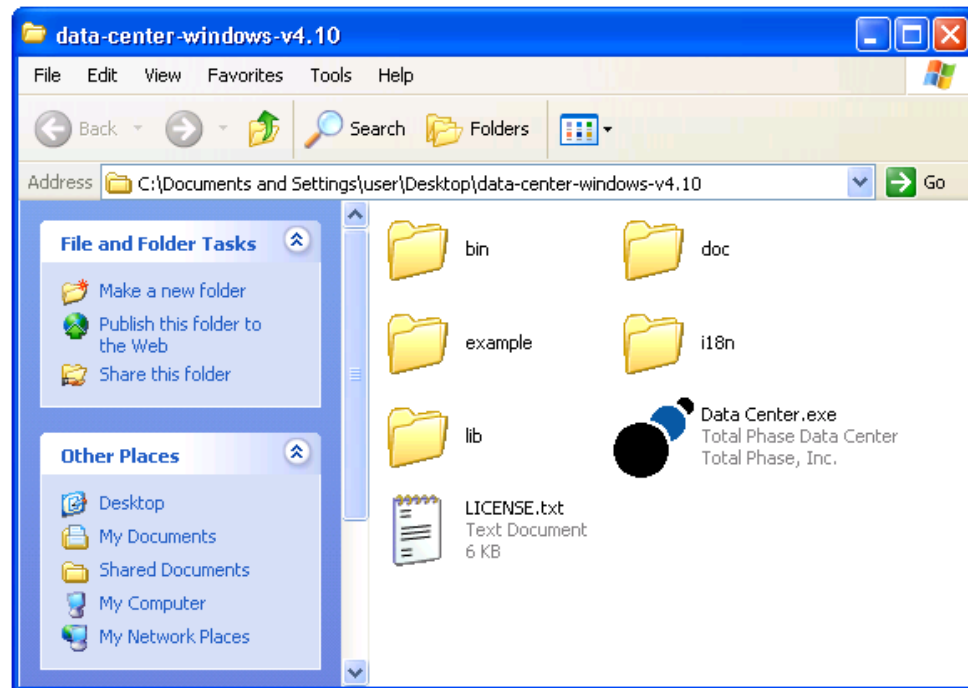

Figure 9: Total Phase Data Center Software Directory Contents
1. Go to the folder (Figure 9) where the software package was extracted.